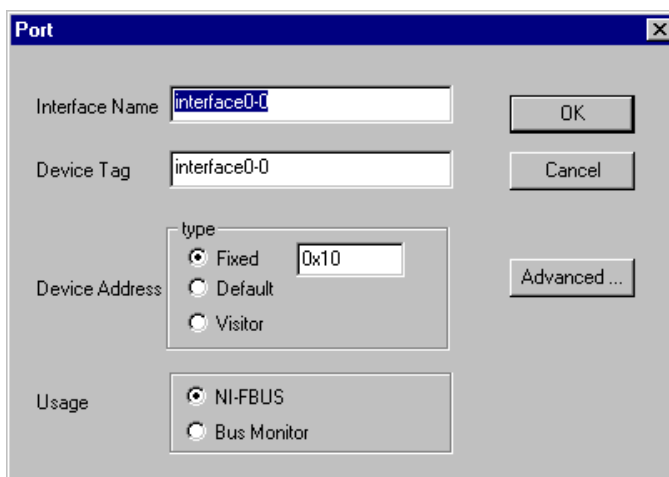

Figure 4-2. Assigning Port Information
5. After checking the information you just entered, click on the **Add** button. The dialog box for entering port information for the fieldbus interface, shown in Figure 4-2, appears.